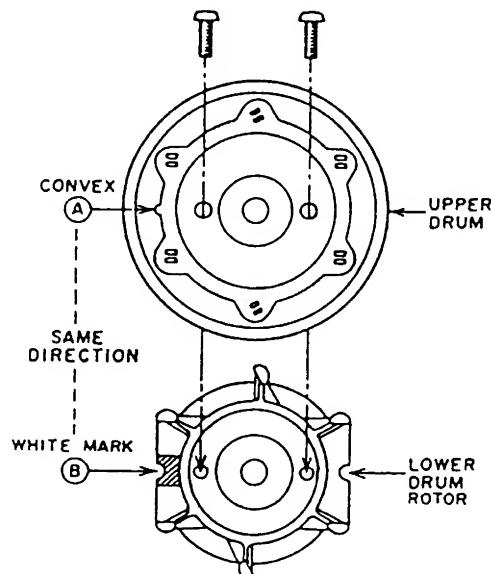

Fig. 3-20
- 1) Attach the UPPER DRUM to the LOWER DRUM ROTOR so that the upper drum convex **A** and lower drum rotor's white mark are in the same direction as shown in Fig. 3-20.